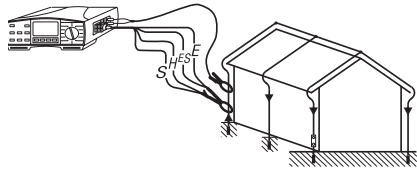

Figure 37: Connection of test leads and clamp adapter
- ▶ Connect the 4-pole test lead supplied with the Earth Measurement Set (Cat. No.1227) to the 4-pole measurement connector (17) of the UNITEST EUROtest. Connect the UNITEST clamp adapter (Cat. No.1245) to the connectors H/S and E/ES. Also connect UNITEST clamp adapter Cat. No.1245 to the measurement connectors C1 (14) and C2/P (15), please refer to Figure 37.
- ▶ Switch on the UNITEST EUROtest using the key 'ON/OFF'. Turn the rotary switch 'Measurement Function' to the function (12) RE Earth Resistance.
- ▶ Connect both clamp adapters to the earth connector being tested in accordance with Figure 37. If desired, this connection information can directly be retrieved on the measurement instrument using the key 'HELP'. Repeated pressing of the key 'HELP' indicates the various options for connection.